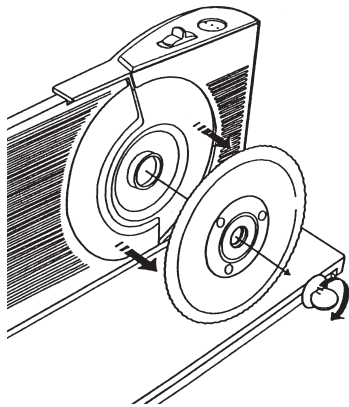

Figure 6
6. Remove Blade as shown in Figure 6. Hold blade with one hand and use a coin to unlock Blade Locking Screw by turning it clockwise. Carefully pull blade off and hold by using the blade hole.
9. After cleaning and drying, install Blade and Blade Screw to Motor Assembly in reverse order of step 6 (see Figure 6). Make sure Blade Locking Screw is properly engaged and tightened. Reinstall Food Press Plate and Feeder.